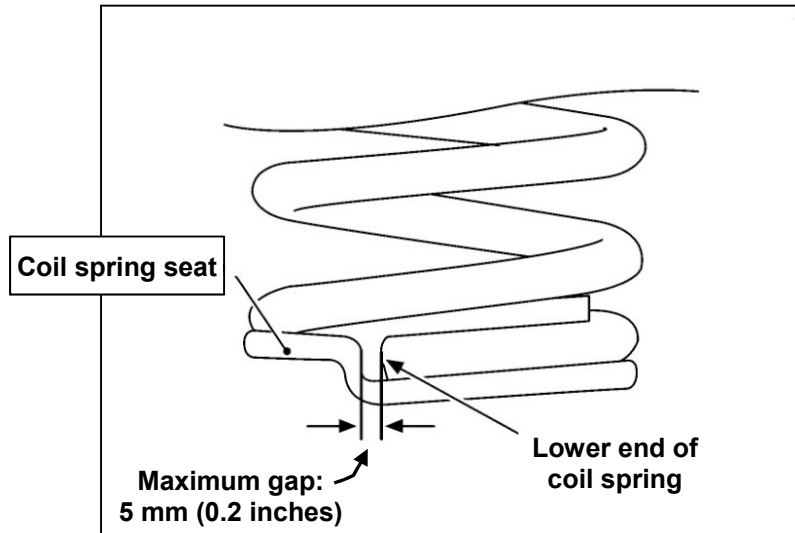

Figure 19
c. Align the coil spring by placing its lower end as shown in Figure 19.